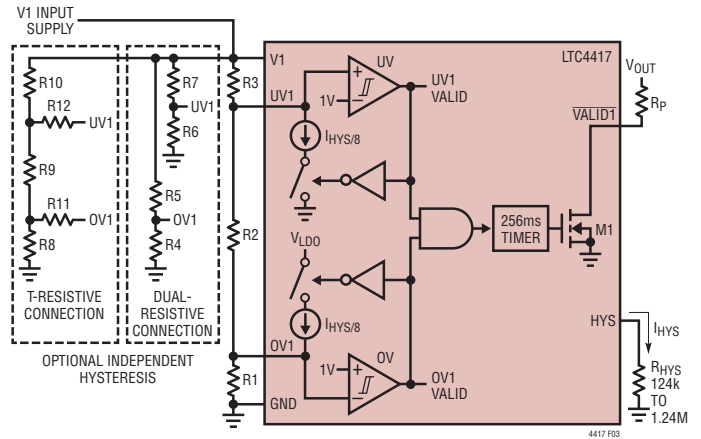

Figure 3. LTC4417 External Hysteresis
Hysteresis for the OV and UV comparators are set via the HYS pin. Two options are available. Connecting a resistor,  $R_{HYS}$ , between HYS and GND, as shown in Figure 3, sets the hysteresis current  $I_{OV\_UV(HYS)}$  that is sunk into UV1, UV2 and UV3 and sourced out of OV1, OV2 and OV3. The value of  $R_{HYS}$  is calculated with Equation (1). Choose  $R_{HYS}$  to limit the hysteresis current to between 50nA and 500nA.
Independent OV and UV hysteresis values are available by separating the single string resistive dividers R1, R2 and R3, shown in Figure 3, into two resistive strings, R4-R5 and R6-R7. In such a configuration, the top resistor defines the amount of hysteresis and the bottom resistor defines the threshold. Use Equations (2) and (3) to calculate the values.
When large independent hysteresis voltages are required, a resistive T structure can be used to define hysteresis values, also shown in Figure 3. After the desired OV and UV thresholds are set with resistors R8 through R10, R11 and R12 are calculated using: